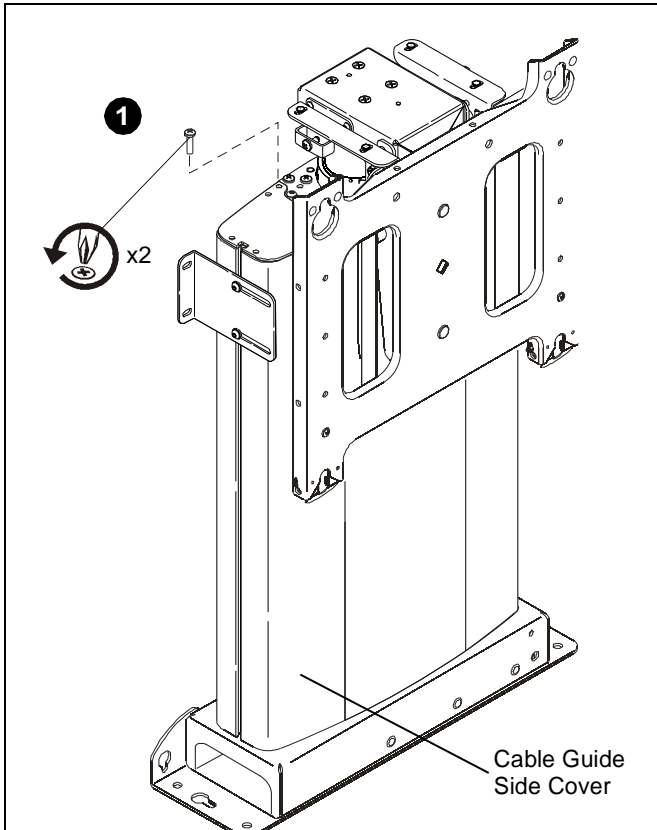

Figure 17
2. Set screws aside for reuse. (See figure 17)